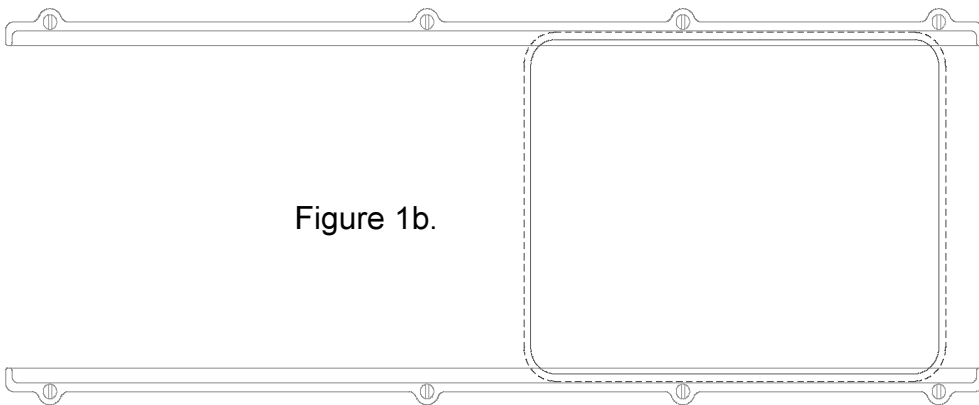

Figure 1b.
- 10.2 If the style shown in Figure 1b is installed, a 6mm (ref 15/64") drill will need to be dressed as shown in Figure 2a. The hole is to be located as shown in Figure 2b.